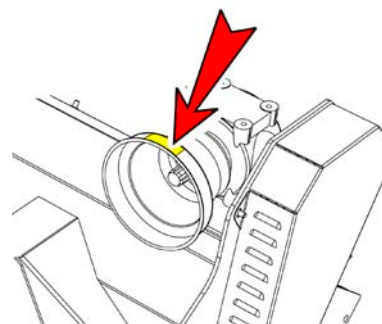

FIG. 4.16
- Fit one end of the shaft onto the machine gearbox assembly, respecting the direction of assembly required by the manufacture and indicated on the outer covering of the protection (FIG.4.16), and on the other onto the tractor power takeoff.